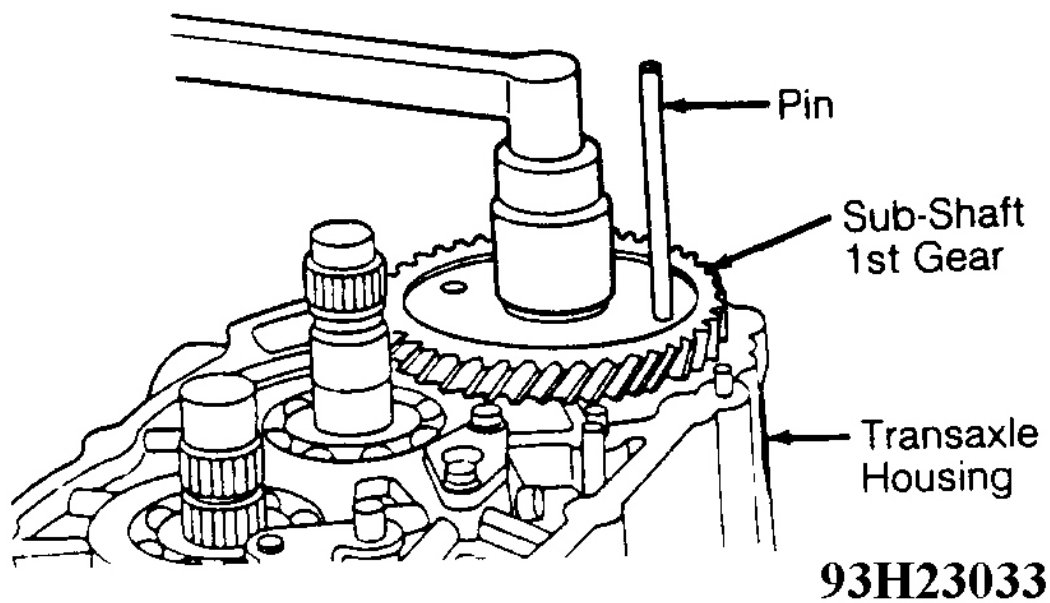

Fig. 7: Securing Sub-Shaft
5. Rotate sub-shaft 1st gear, and position hole in gear so pin can be installed through gear, into transaxle housing to secure sub-shaft. See **Fig. 7** . Install pin. Remove sub-shaft lock nut and spring washer.